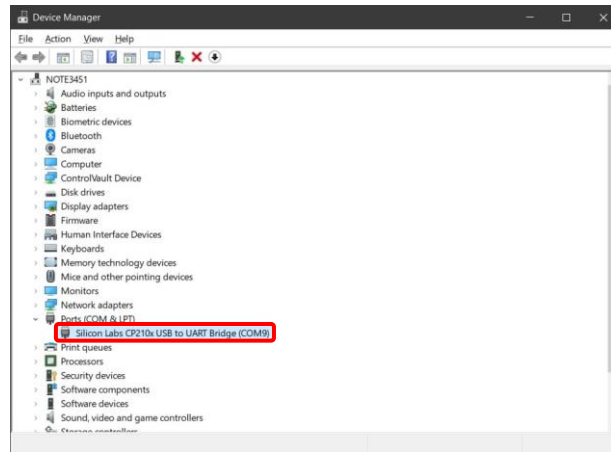

Figure 19 Device manager
- 5-3-3. Open "Ports (COM/LPT)" in "Device manager" and confirm that the Silicon Labs CP210xUSB to UART Bridge (COMx)* is displayed (Figure 19).
A number will replace the x. In the example shown in Figure 19, the number is 9. The number differs depending on the PC used.